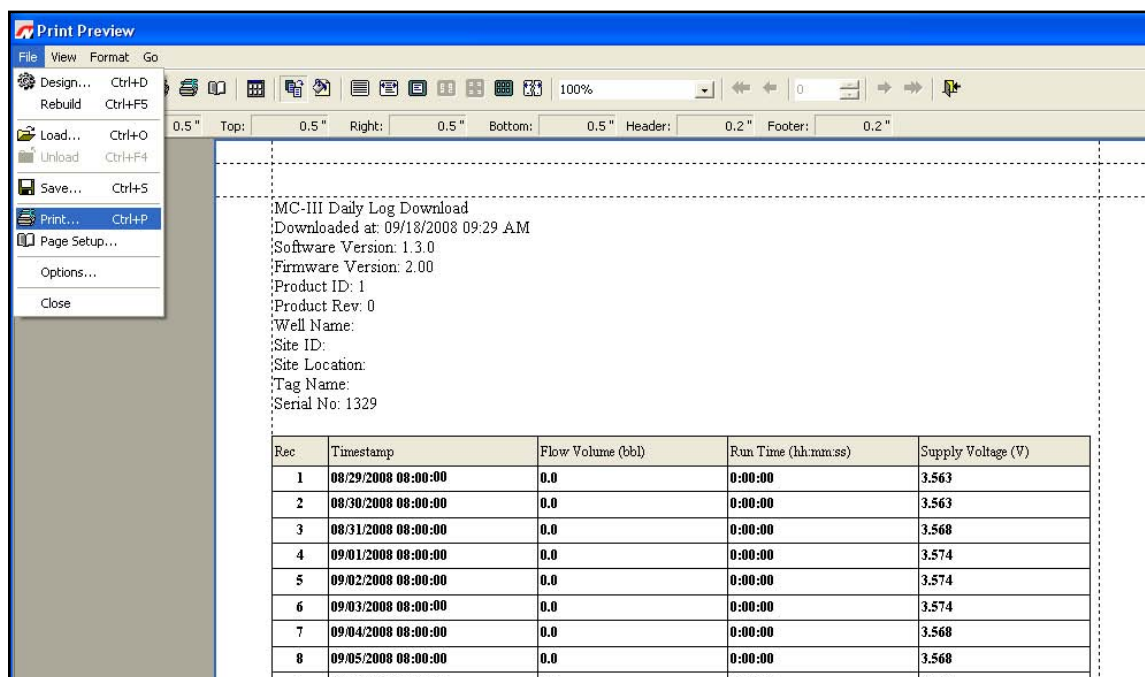
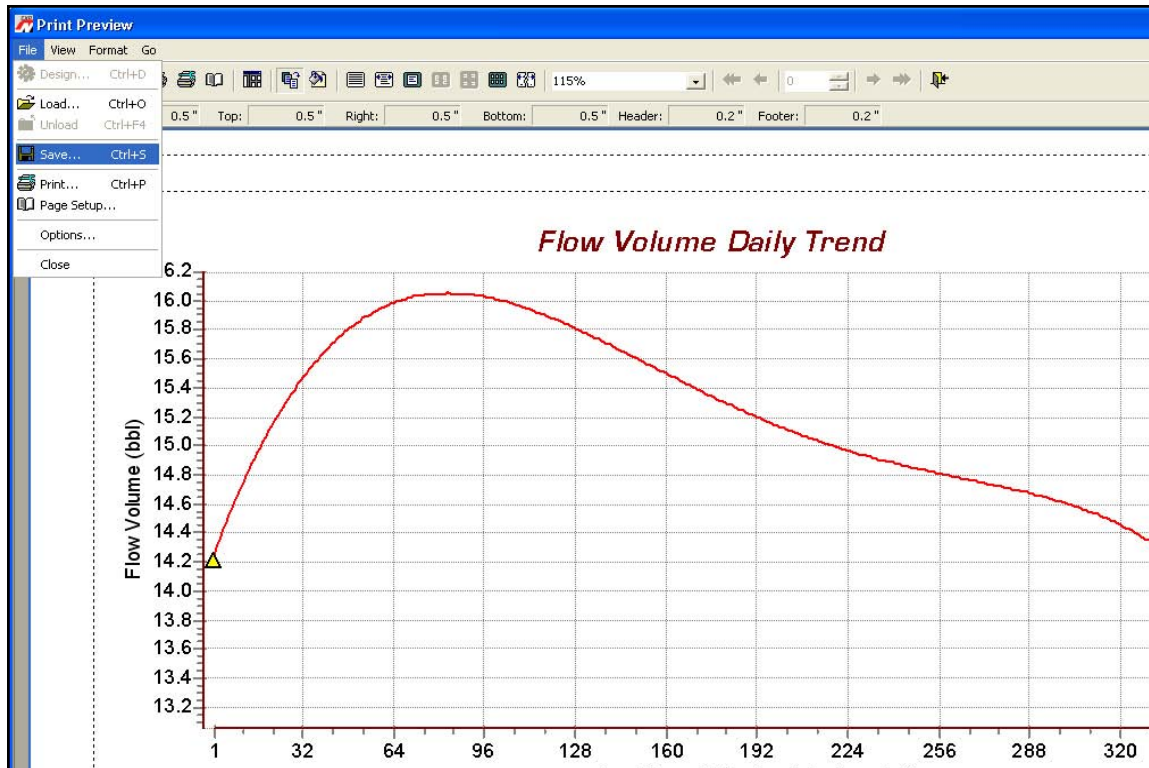
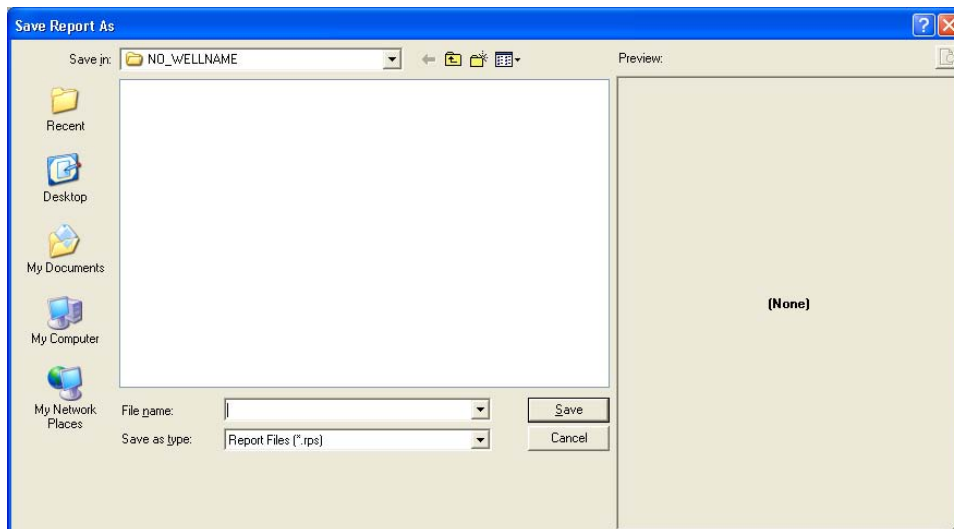

Figure 5.7—Print preview, tabular view
Figure 5.8—Print preview, trend view
Figure 5.9—Save Report As screen
A flow log can be printed and/or saved as a table (Figure 5.7, page 80) or a trend chart (Figure 5.8, page 81).
To print the report, select File>Print from the task bar (Figure 5.7).
1. Select File>Save from the task bar (Figure 5.8, page 81). A “Save Report As” window will open (Figure 5.9).